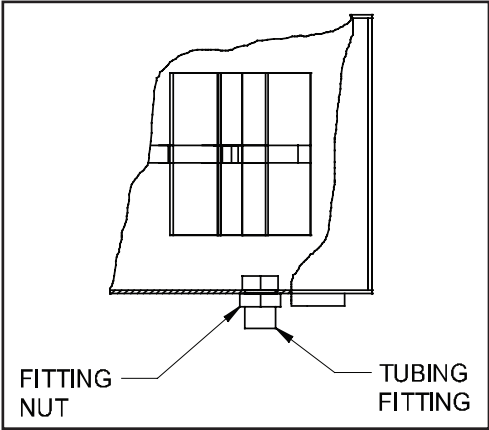

Figure 2
- 2. Insert the tubing fitting through the hole and fasten it with the fitting nut. (See Figure 2)